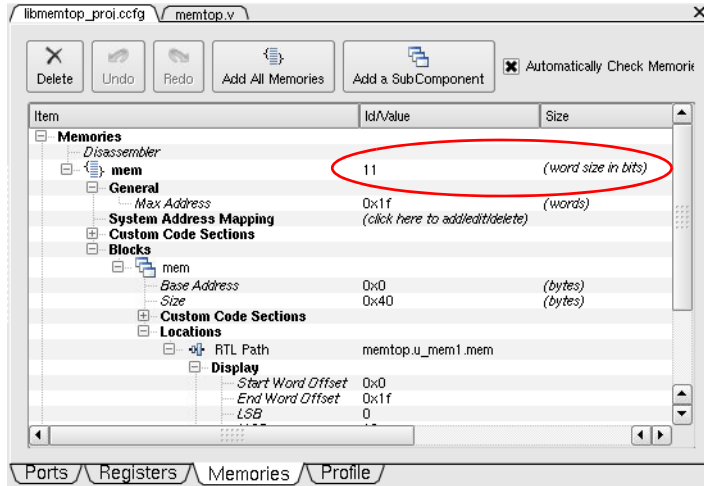

Figure 4-41 Changing the Word Size in Bits value
2. Increase the "word size in bits" value to a byte-aligned value by clicking on the value in the Id/Value column and entering the new value (see Figure 4-41).